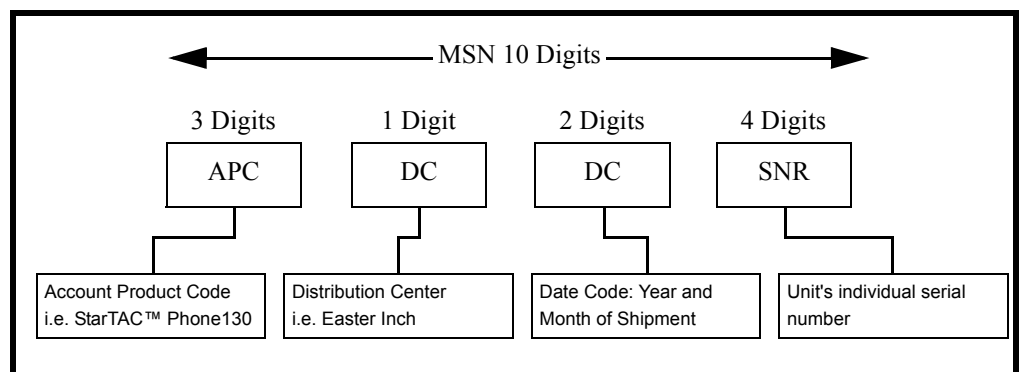

Figure 46. MSN Divisions
- The MSN is divided into 4 sections as shown in Figure 46.